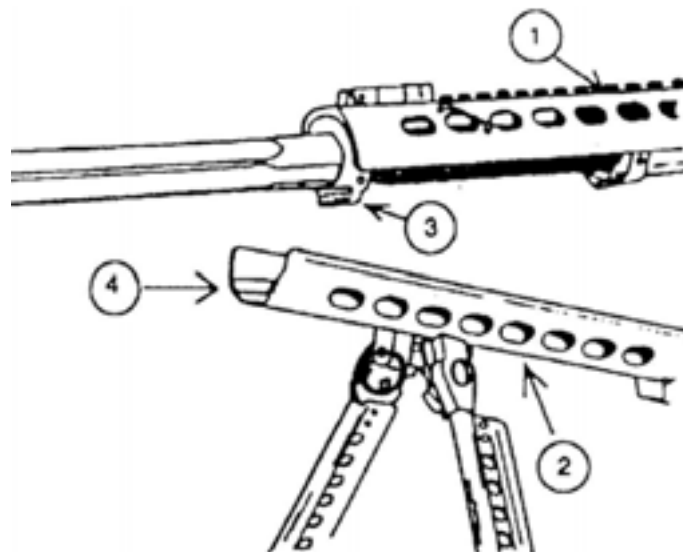
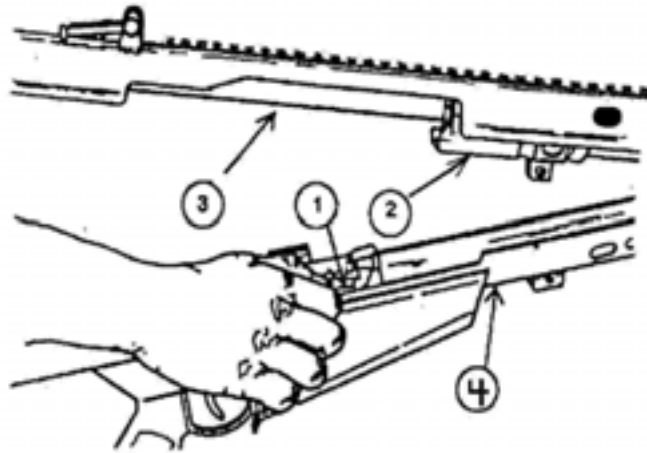

Figure 2-9. Joining Upper and Lower Receivers
Figure 2-10. Lowering Upper Receiver
6. Making sure the bipod legs are extended high enough to allow sufficient ground clearance, position the upper receiver (1), Figure 2-9, rear up, muzzle down, over the lower receiver (2).
7. Engage the front hook (3), Figure 2-9, of the upper receiver over the hinge bar (4) of the lower receiver. Positioned directly behind the rifle, again grasp the bolt charging handle (1), Figure 2-10, and withdraw bolt against mainspring tension so the bolt will clear the barrel (2) when the upper receiver (3) is lowered.
- Lower and close the upper receiver (3), Figure 2-10, onto the lower receiver (4). Release the charging handle (1) slowly until bolt engages barrel (2).